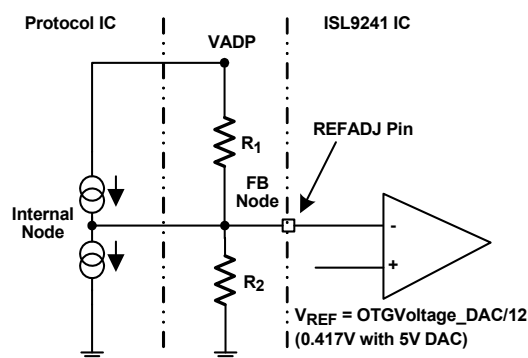

Figure 39. Simplified REFADJ Application
The schematic shown in Figure 39 on page 56 shows how the REFADJ pin is tied to the feedback (FB) node resistor divider node off the VADP node for a quick charge protocol IC. This schematic sets up the FB node to use the reference voltage of 0.417V from ISL9241, but the output on the VADP node can be set up to any voltage over the standard operating range using the R_1/R_2 ratio.